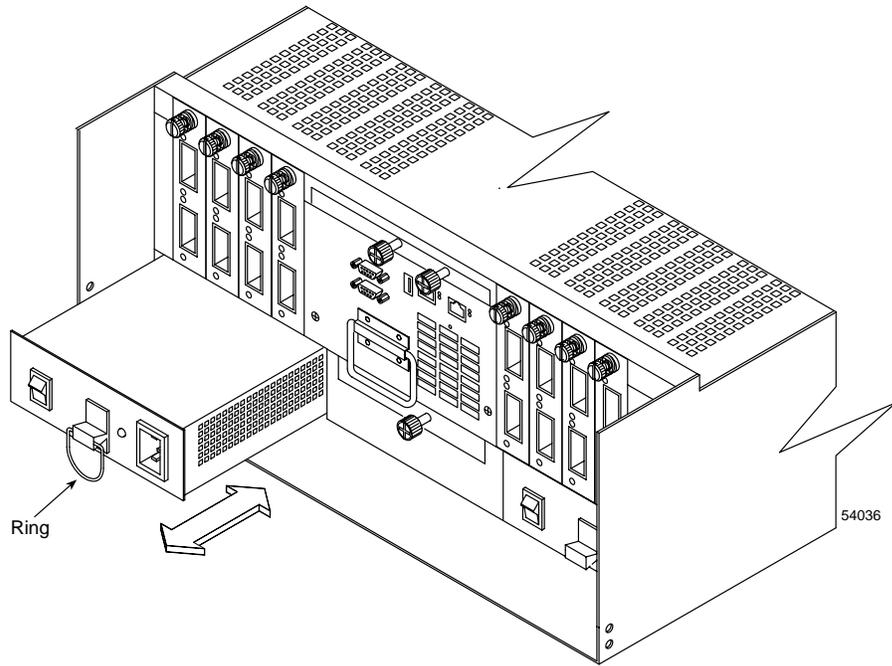

Figure 4-11 Removing and Installing a Power Supply Canister
4. Remove the failed power supply (Figure 4-11). Pull the ring to release the canister and slide it out.
7. Install the new power supply canister (Figure 4-11). Push the canister into the slot until it locks in place.